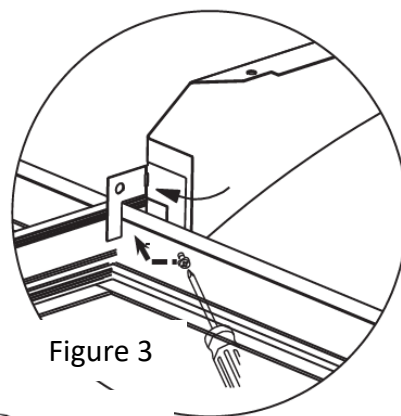

Figure 3
3. If required by building codes, use a #8x1/4" sheet metal screw (not supplied) to fasten fixture to T-grid (Figure 3).